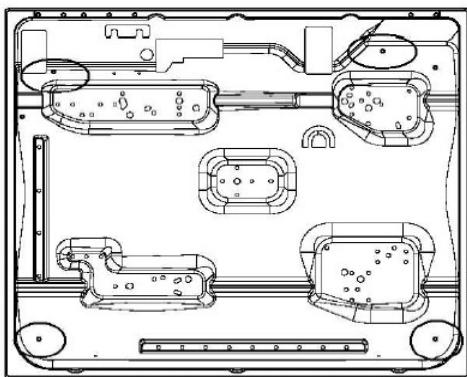

Fig.10
The natural flow of air must take place through an opening made on an outside wall of the room and having a working section of at least 100 cm^2 (A). In the case of appliances without safety valves, this opening must have a minimum working section of 200 cm^2 (fig. 10).
Combustion fumes produced by gas appliances must be removed by means of a hood connected directly either to an exhaust duct or to the outside (fig. 10).
Components shown in fig. 10